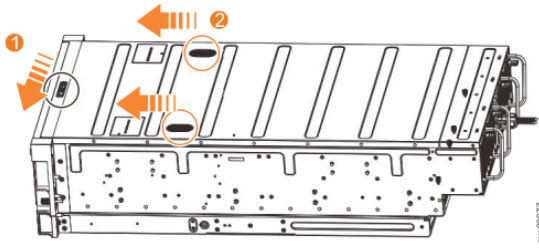

Figure 142. Releasing the 5U expansion enclosure cover
2. Slide the release latch (**1**) in the direction that is shown in Figure 142 on page 181.
3. Slide the cover toward the front of the expansion enclosure (2), as shown in Figure 142 on page 181.